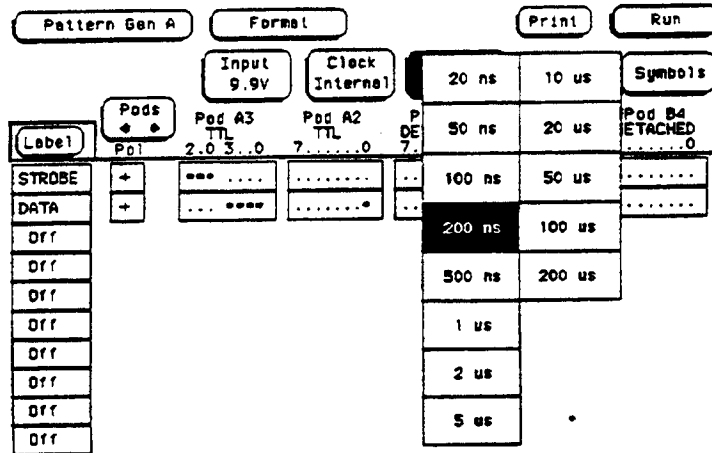

Figure 4-9. Period Selection
- j. Touch Period, then 200 ns. See figure 4-9.